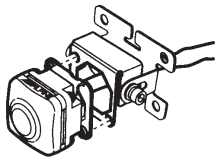
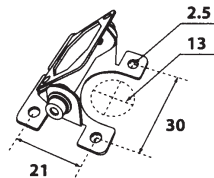

Fig.2/Schéma 2/Fig.2
Fig.3/Schéma 3/Fig.3
- 1 Attach the camera to the camera mounting bracket ②. Pull the camera cable through to the camera mounting bracket ②, and secure with the hex screws ③ (see Fig. 2).
- 2 Loosen the camera mounting bracket ② and angle adjustment screw. Determine the attachment angle, and carefully tighten the angle adjustment screw.
- 3 Make a 13 mm hole in the rear bumper camera mounting bracket (see Fig. 3).
- If necessary, use a self-tapping screw ⑨ to fix the camera mounting bracket (In the case of a plastic mount area).